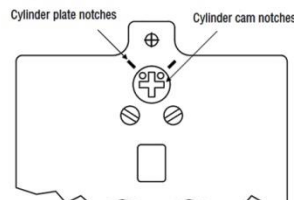

fig. 6
- Install the new cylinder by aligning the locating marks on the plate and on the cam (fig. 6).